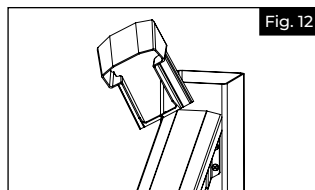

Fig. 12
- Begin at one side of rail and align first baluster with first routed hole on bottom side of top rail and snap top rail into position (Fig. 12).
- c. Open the top rail bracket cover to allow it to wrap around the top rail (Fig. 12). While open, make sure the "tab" fits behind the rail and against the post.